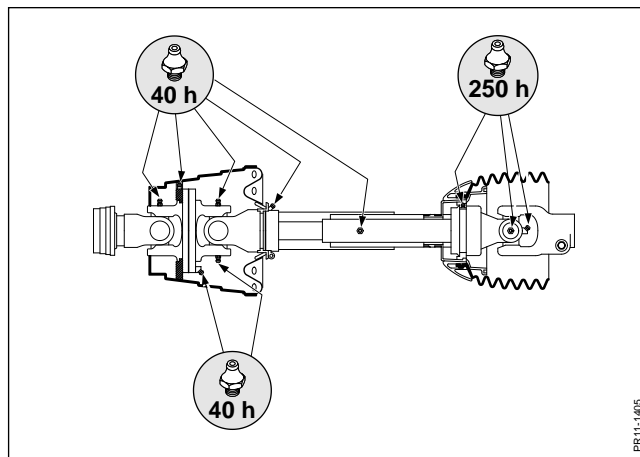

Fig. 4-7
**Fig. 4-7** All PTO shafts generally have a 250 hour greasing interval, except the wide-angle joint and the profile tube on the PTO shaft between tractor and machine.